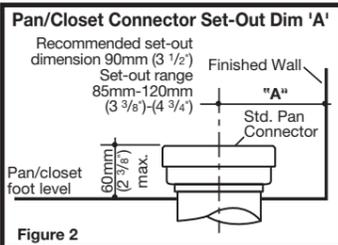
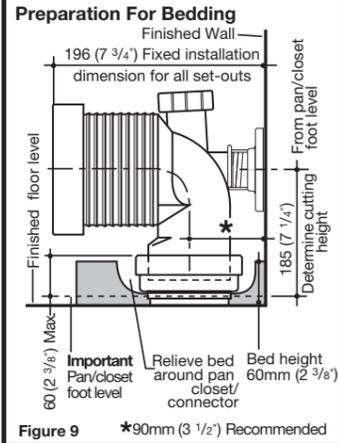
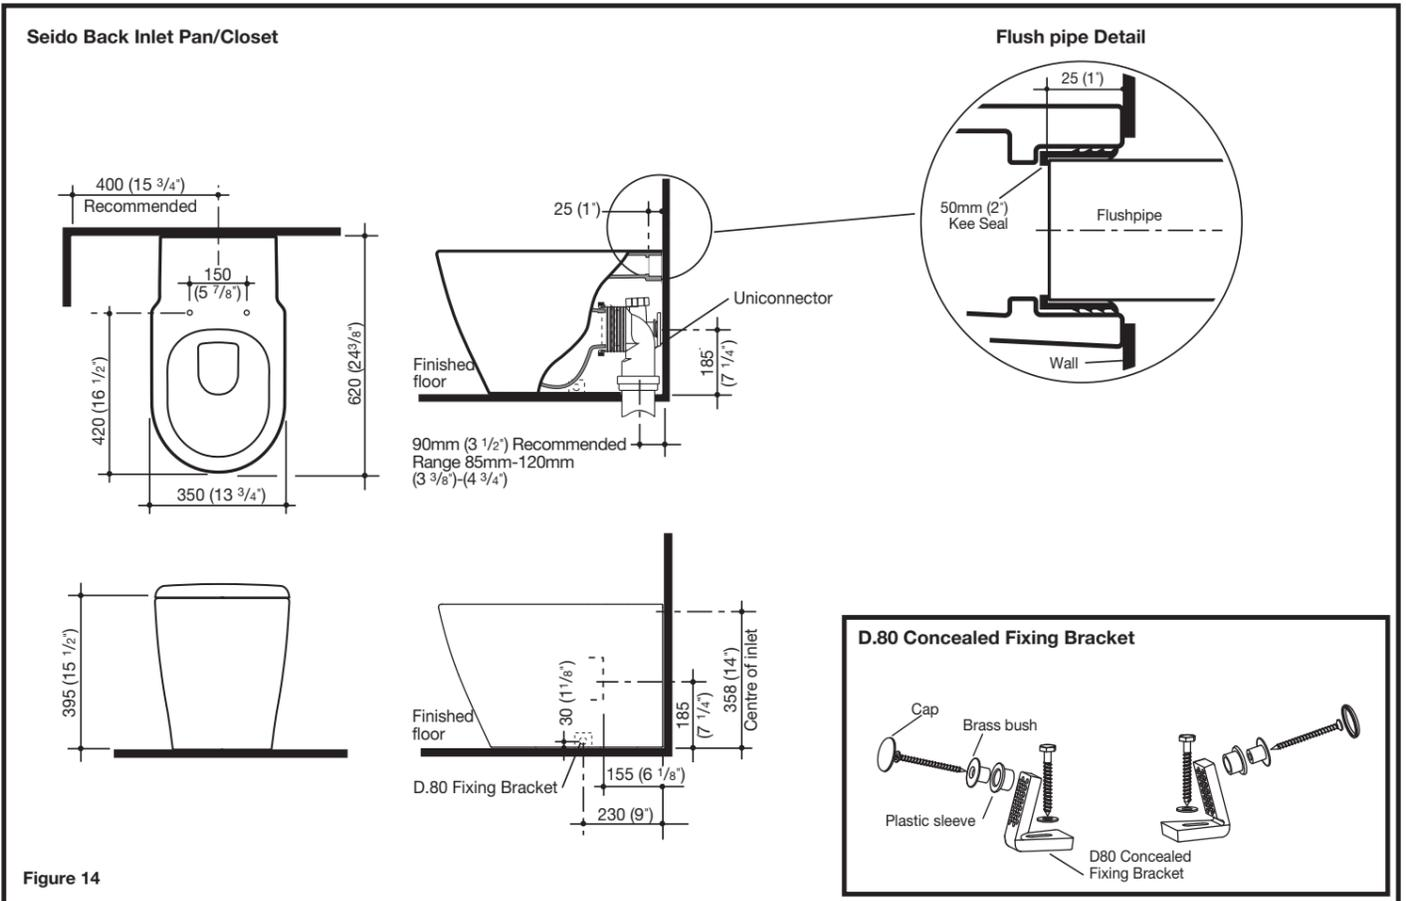

Figure 2
Figure 9
Figure 14
The Seido back inlet pan/closet is universal for both 'S' and 'P'-Trap installations as detailed. The recommended set-out for 'S'-Trap installations is 90mm (3 1/2") from the finished wall with set-out flexibility for existing soil pipe positions ranging from 85mm-120mm (3 3/8")-(4 3/4") with the Uniconnector supplied. It is important to position the pan collar 60mm (2 3/8") Max. from the foot level of pan/closet as detailed in Fig. 2. Position flushpipe in wall as detailed in Fig. 14.
- 2- Determine set-out "A" of existing pan/closet connector, as detailed in Fig. 2. Set-out range 85mm-120mm (3 3/8")-(4 3/4"). Recommended set-out 90mm (3 1/2"), as detailed in Fig. 9. For 'P' trap installation, see Fig. 11.
- 4- Prepare bedding sand cement mixture 3:1 to depth of 60mm (2 3/8"), as detailed in Fig. 9.